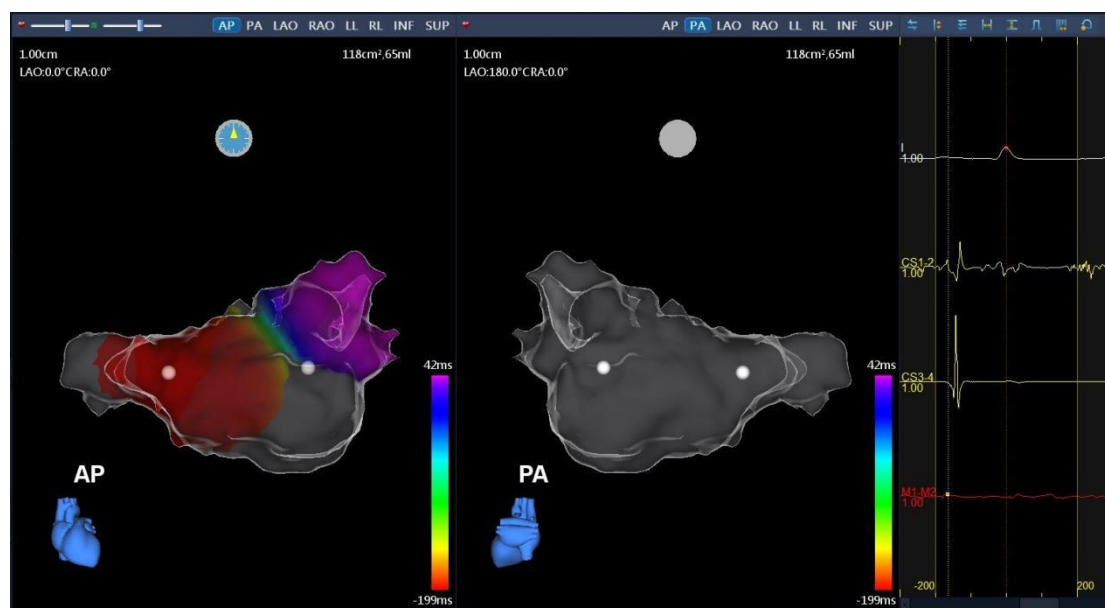

Figure 8-12 RTM Glass Display
- 4) Press and hold the model with the left mouse button while pressing "plus" or "minus" in the keypad to adjust the model glass transparency (Figure 8-12).